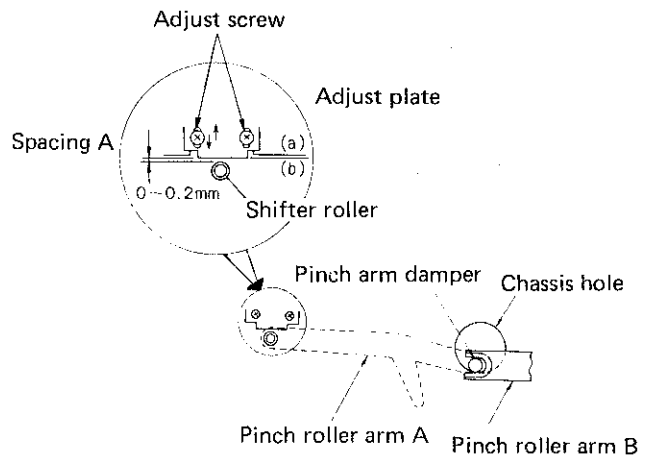
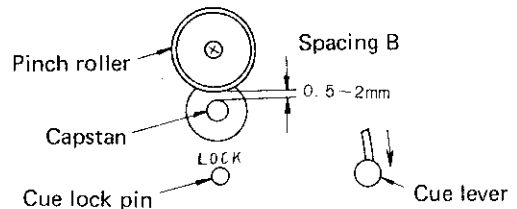

Fig. 15
Fig. 16
2. With deck in stop mode, loosen cue adjusting plate screws (Fig. 15) and adjust for 0 – 0.2 mm spacing A between shifter roller and cue adjusting plate.
3. After completing Step 1 and 2, with cue lever locked by means of lock switch on front panel, confirm 0.5 – 2 mm spacing B between pinch roller and capstan (Fig. 16). If not in this range, defective pinch roller shaft is indicated. Replace pinch roller arm A (Fig. 15) and repeat adjustments.